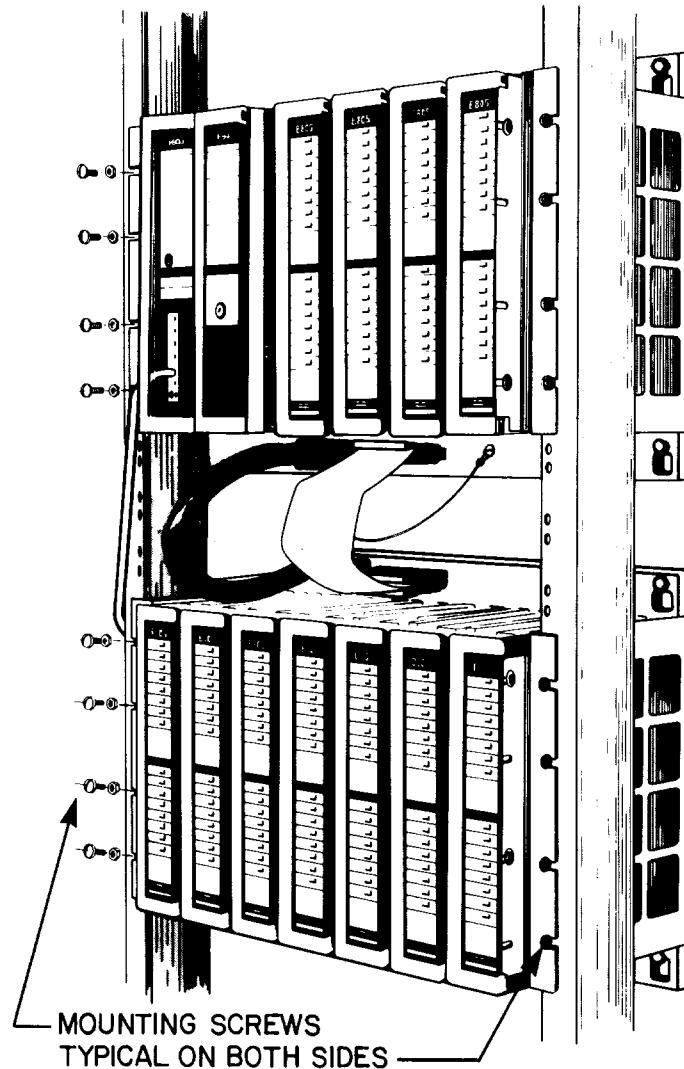

Figure 3-3 Rack Mounting Housing
3. Attach the module housing to the rack. Lift the module housing to its mount position and insert the mounting screws. Use #10-32 pan head screws to attach the module housing. The screws insert into the mounting flange. If the rack does not have threads, use the flat lock nut to hold the screws in place. See Figure 3-3.